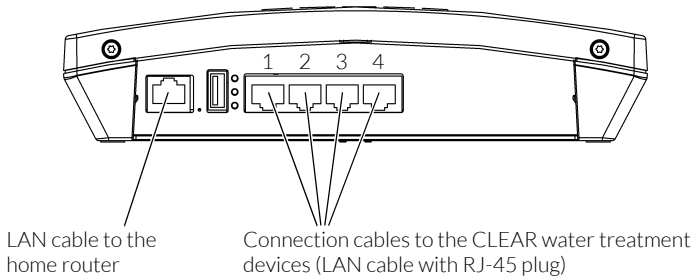

Fig. 1: Connection area (view from below)
- / Connect the device connection cable from the first CLEAR water treatment device to port 1 of the CLEAR BOX (see fig. 1).
- / Connect the device connection cables of all other CLEAR water treatment devices to ports 2 - 4 (see fig. 1). The sequence is unimportant.
- / Connect the LAN cable from the CLEAR BOX to the home router (see fig. 1).